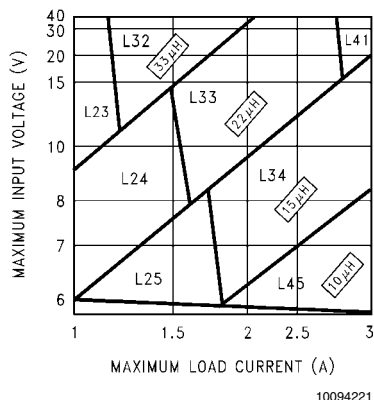
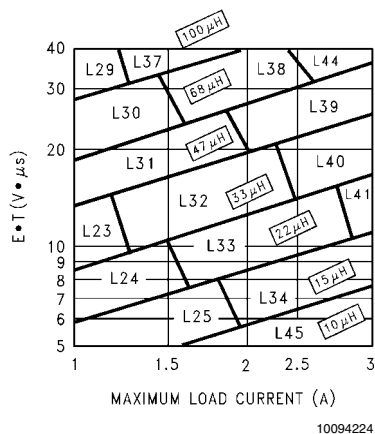

FIGURE 3. LM2670-3.3
FIGURE 6. LM2670-ADJ
Step 3: Determine the inductor required by using one of the four nomographs, Figure 3 through Figure 6. Table 1 provides a specific manufacturer and part number for the inductor.
Step 5: Determine an input capacitor from Table 4 for fixed output voltage applications. Use Table 2 to find the specific capacitor type. For adjustable output circuits select a capacitor from Table 2 with a sufficient working voltage (WV) rating greater than $V_{in\ max}$, and an rms current rating greater than one-half the maximum load current (2 or more capacitors in parallel may be required).
Step 3: Use the nomograph for the 3.3V device, Figure 3. The intersection of the 16V horizontal line ($V_{in\ max}$) and the 2.5A vertical line ($I_{load\ max}$) indicates that L33, a $22\mu H$ inductor, is required.
Step 3: To use the nomograph for the adjustable device, Figure 6, requires a calculation of the inductor Volt•microsecond constant (E•T expressed in V•µs) from the following formula:
Using Figure 6, the intersection of 27V•µs horizontally and the 2A vertical line (I_{load} max) indicates that L38, a 68µH inductor, should be used.
Important Note: When using the adjustable device in low voltage applications (less than 3V output), if the nomograph, Figure 6, selects an inductance of 22µH or less, Table 6 does not provide an output capacitor solution. With these conditions the number of output capacitors required for stable operation becomes impractical. It is recommended to use either a 33µH or 47µH inductor and the output capacitors from Table 6.